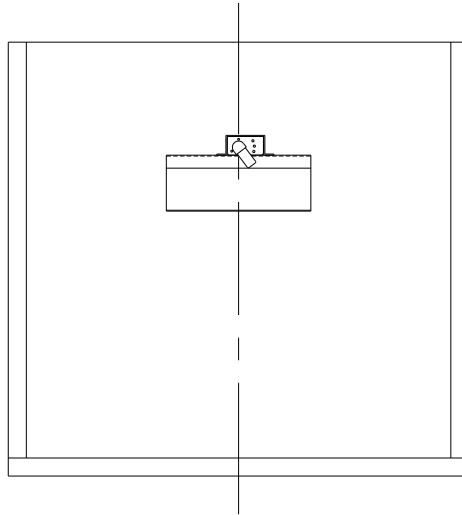

Figure 19
5. Position the pivot boxes so that the pivot pins are centered on the trailer. Refer to figure 19.